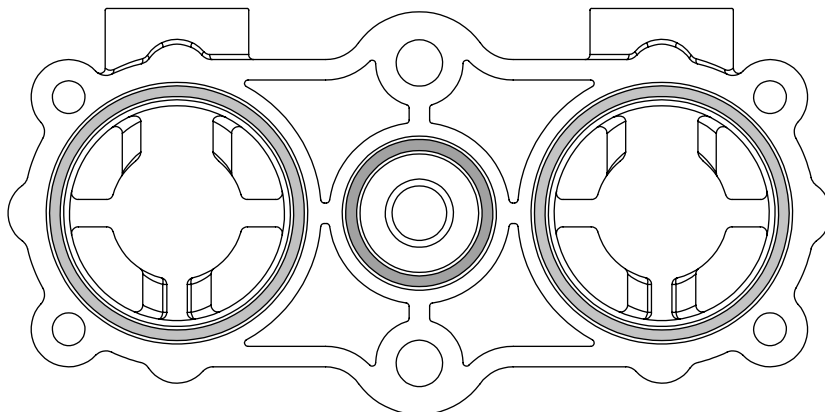

Figure 6.
6. Insert the new O rings from the service kit and replace into the grooves on the underside of the valve block. (See Figure 6 on page 10)